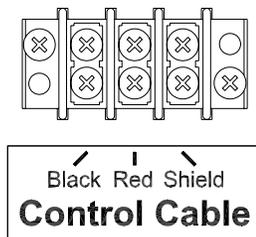

Figure 18 Control Cable Wiring Diagram
7. Connect the cable to the terminal block labeled **Control Cable** on the delay of game timer junction chassis according to figure 18.